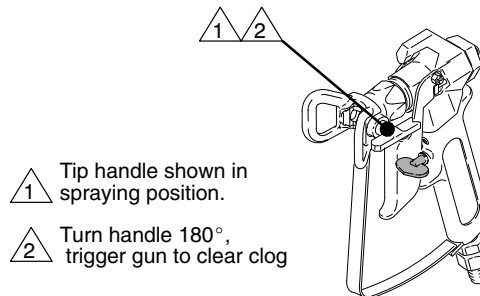

Fig. 7
The tip guard alerts you to the risk of injection and helps prevent placing any part of the body close to the spray tip. The tip guard also adjusts the vertical or horizontal spray pattern. See page 10. The tip guard holds a reversing spray tip. The tip is in the spraying position when the tip handle points forward. See Fig. 7.
7. Release gun trigger. Engage safety latch. Rotate RAC IV tip handle 180°. See Fig. 7.